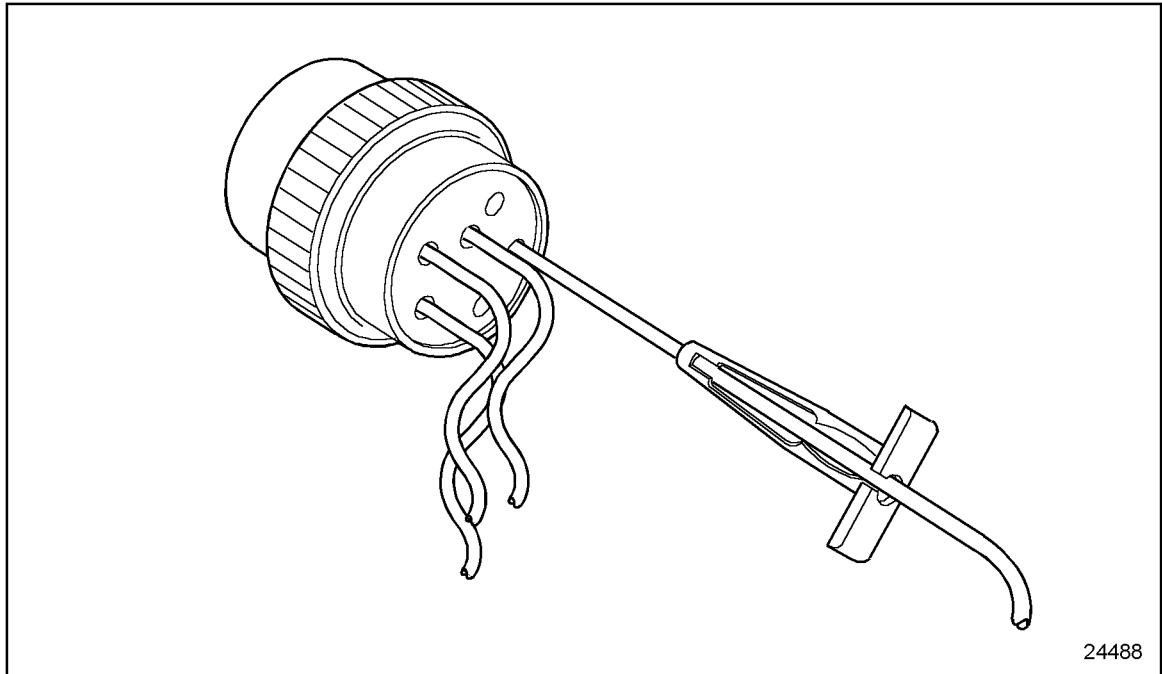

Figure 8-17 **Removal Tool Position**
1. With the rear insert toward you, snap the appropriate size remover tool over the cable of contact to be removed. See Figure 8-17.